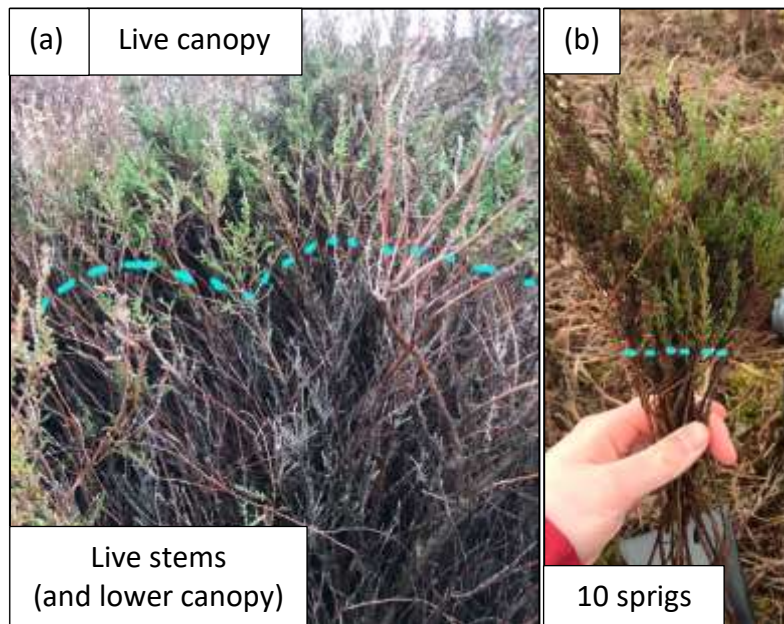

Figure S1 (a) Identifying live canopy material from live stems (and grey lower canopy material). (b) Collecting 10 sprigs as per step 2.1.
2.1 Set out a 25 m transect covering a representative area of the site. Starting with the live *Calluna*, walk along the transect taking the same size sample from each plant, collecting sprigs from approximately 10 plants (Figure S1). Clip the sprigs into small one-inch segments, separating the top shoots and canopy into one tin and the lower canopy and stems into another. Aim to take the same approximate mass for each sample of the same material and fill the tin $\frac{3}{4}$ full.